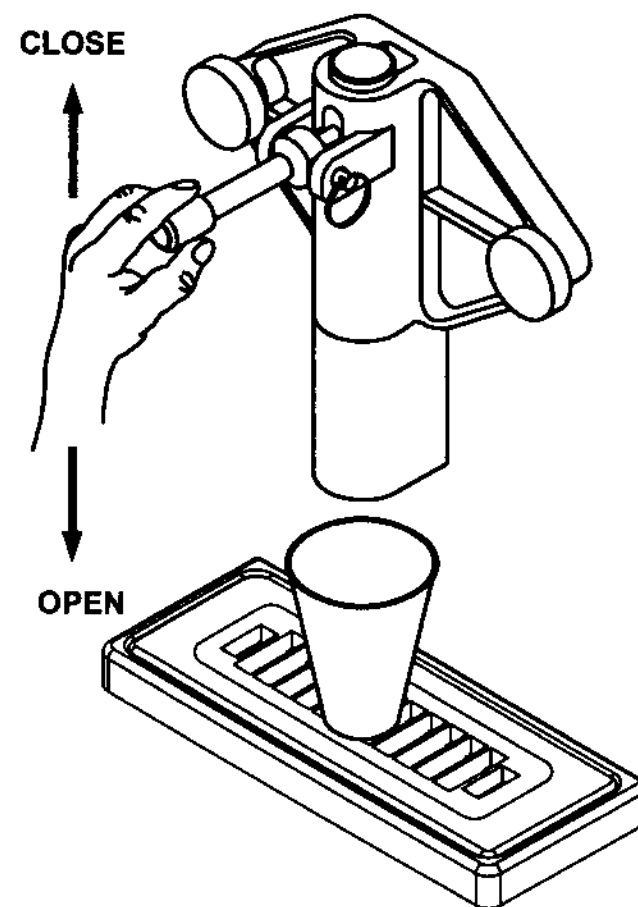

Fig. 44b
2. Place a cup beneath the dispensing spigot and depress the spigot handle - Fig. 44b.